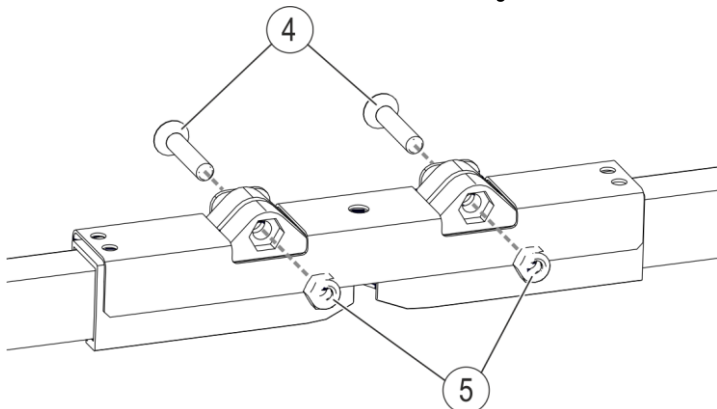

Fig. 100: Mount the plate for the air gap insulation section
- Tighten plate for air gap insulation section (Pos. 2) using countersunk screws DIN 7991 M6x30-A2 (Pos. 4) with an open-end wrench SW 10 and mount the locking nuts DIN 985 M6-A4 (Pos. 5) on the end caps (see Fig. 100).